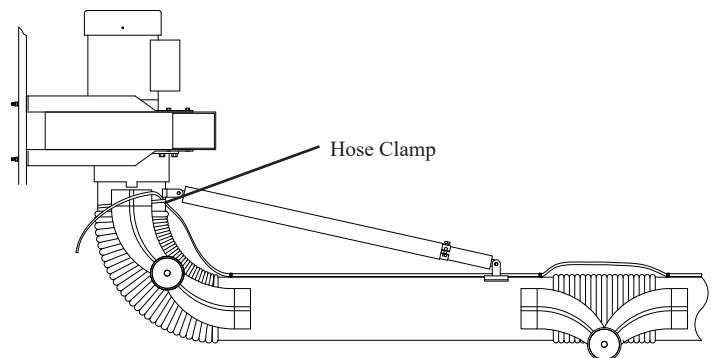

Fig. 4
4. Secure the control cable to the arm base using hose clamp. Allow enough slack so arm can move freely (Fig. 4).